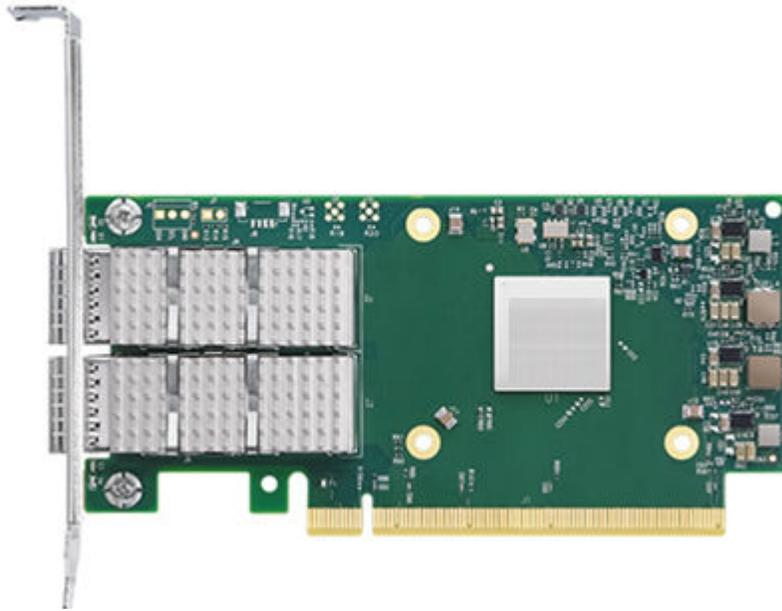

Figure 79. Alignment of the network adapter
10. Align the replacement adapter with the PCIe socket of the adapter cage and press the adapter into place. Ensure that the adapter is fully seated in the riser, as shown in Figure 79 on page 134.